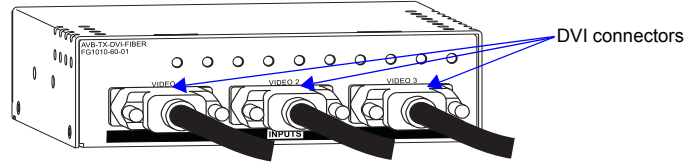

FIG. 3 Attach DVI connectors
1. Check EDID switch on front of TX to be sure that it remains set to the right (WP).
2. For each source device, insert the DVI connector into the DVI jack on the rear of the TX (FIG. 3). For the DVI-I pinout, see FIG. 5.